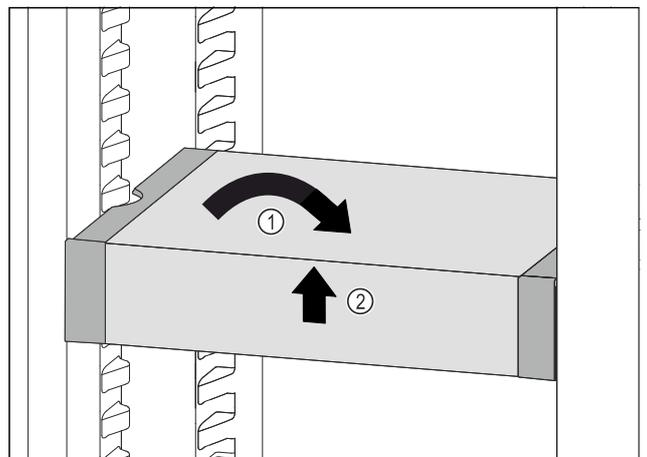

Fig. 91
- ▶ Set VarioSafe straight. Fig. 91 (1)
- ▶ Lift VarioSafe at the front. Fig. 91 (2)